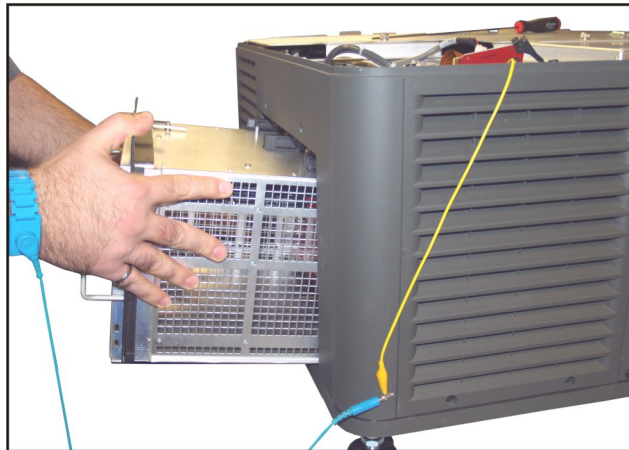

Figure 5-55 Remove Cardcage
8. Tilt the cardcage up and out to remove. (Figure 5-55)